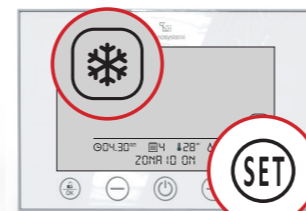

Fig.10
5.2 Cooling . With chrono master unlocked, enter setting mode, use the key , choose the symbol and confirm with the key . If the system features the IR communication protocol and the IR remote control is active, check that value 23 flashes in the centre of the LCD display (Fig. 10).